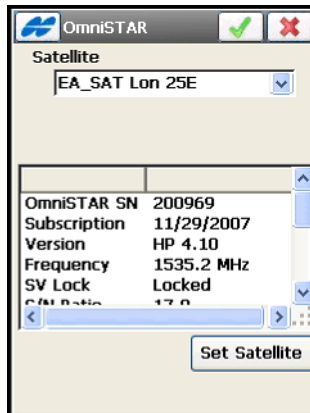

Figure 8-24. OmniSTAR HP Status
- **Status** – opens the OmniSTAR screen to view information on the OmniSTAR link and the receiver OmniSTAR board (Figure 8-24 on page 8-27).